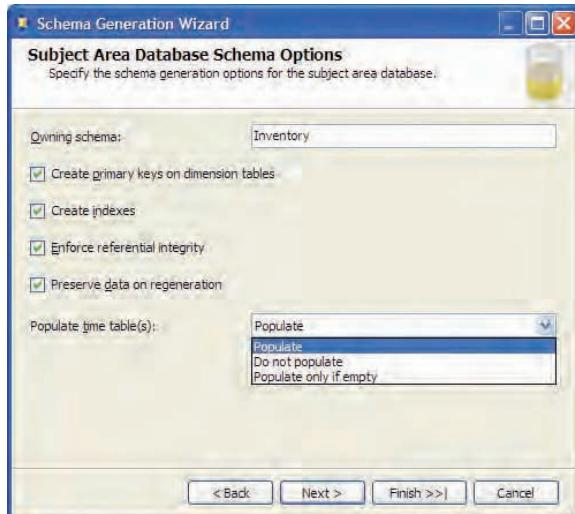

Figure 6.11 The Schema Generation Wizard can populate the Time dimension table.
- Next, use the Subject Area Database Schema Options step (Figure 6.11) to specify the owning schema of the subject area database objects. Leave the generation options to their default values. By default, the Schema Generation Wizard will create appropriate indexes and referential integrity constraints in the subject area database and populate the Time dimension table.